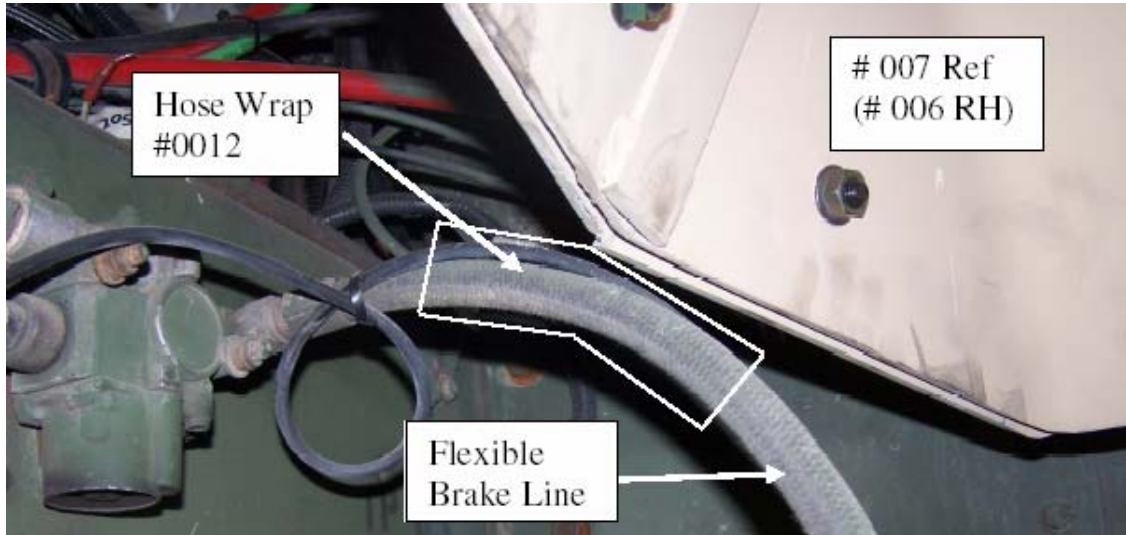

Figure 7-9. Hose Wrap Location.
7. Apply protective hose wrap to the flexible brake lines in the area shown in Figure 7-9.